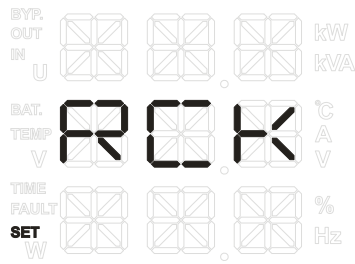

Figure4-13 Rack setting
Rack-mounting setting page: when the UPS has been set to tower display mode and it needs to set to rack display mode, enter this setting page, **RCK** flickers. If you confirm the setting, press  $\text{①}$  (ON) button more than 1s, exit the setting page, the setting succeeds. If you do not confirm the setting, 20s later, it will exit the setting page automatically. Corresponding LCD display is as shown in Figure4-13.